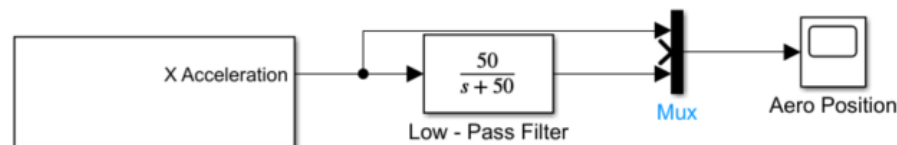

Figure 2: X-axis acceleration signal with a low-pass filter
- Add a Mux block as shown in Figure 2 so that the filtered signal can be compared to the unfiltered sensor output.